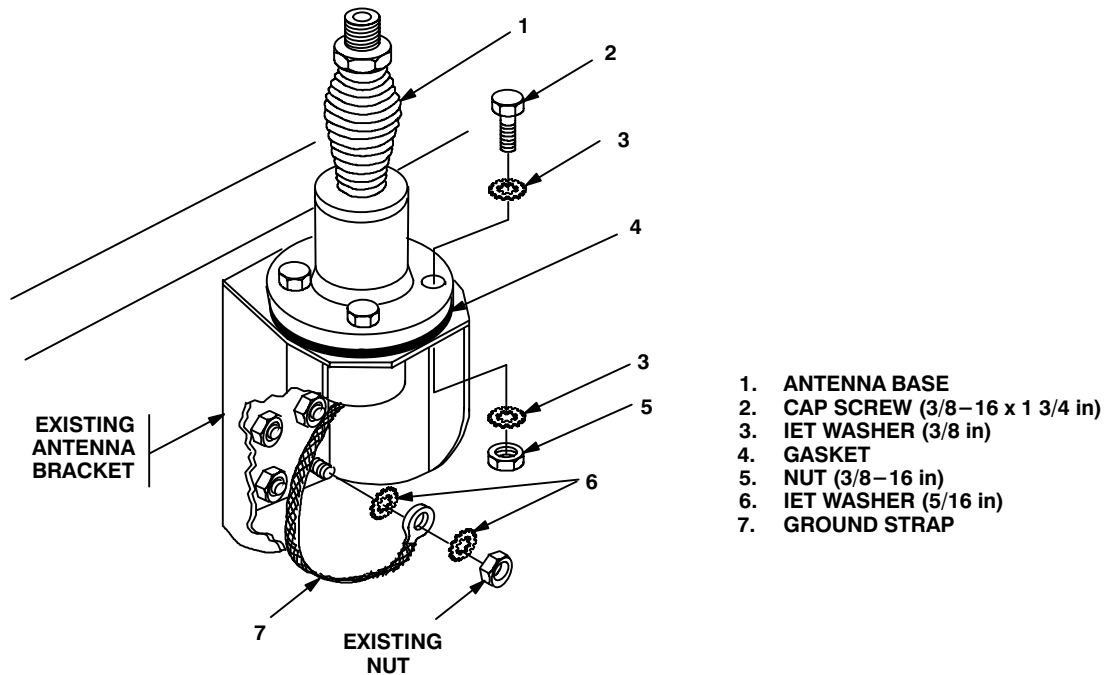

Figure 5-2 (1). Antenna Base Installation: Rear Antenna Base
| a. Gasket (4). | Place on existing antenna bracket and align with mounting holes. See figure 5-2 (1). | |
| e. Mounting bracket (13) and mounting plate (3). | Join together and align holes. See figure 5-2 (2). | |
g. Mounting plate (3).	Place on four existing studs. See figure 5-2 (2).
h. Four IET washers (11) and four nuts (10).	Install and secure mounting plate (3) to front of shelter.	Tools: 7/16 in open/box wrench.
i. Gasket (13).	Place on mounting bracket (12) and aline with mounting holes.
j. Antenna base (14).	Place on top of gasket (13) and mounting bracket (12); then aline mounting holes.
k. Four cap screws (1), eight IET washers (2) and four nuts (6).	Install and secure to antenna base (14) and mounting bracket (12).	Tools: 9/16 in socket and 9/16 in open/box wrench.
l. Ground strap (7), two IET washers (5) and existing bolt.	Install and secure to mounting hole near existing cable clamp.